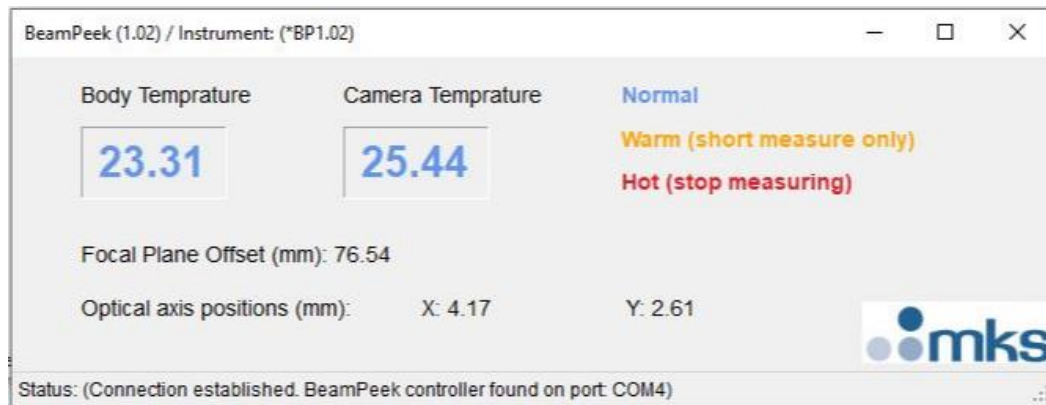

Figure 6: BeamPeek tools: temperature sensors reading, focal plane and Optical axis position
The *BeamPeekTools* software (Figure.6) can be used to monitor temperature of the BeamPeek body as well as the camera. The respective temperature readouts turn orange and subsequently red as the temperature increases close or over permissible limits. The body temperature sensor is placed closed to the optical aperture and can indicate mispositioning of the laser beam. With normal use, the temperature increase rate is approximately 10°C per 30s session at high power (>500W). **If mispositioned, the temperature could reach the recommended maximum of 65°C in 10-15 seconds.**
- Body and camera temperature are monitored by two sensors and displayed on software (Figure 6: BeamPeek tools: temperature sensors reading, focal plane and Optical axis position)